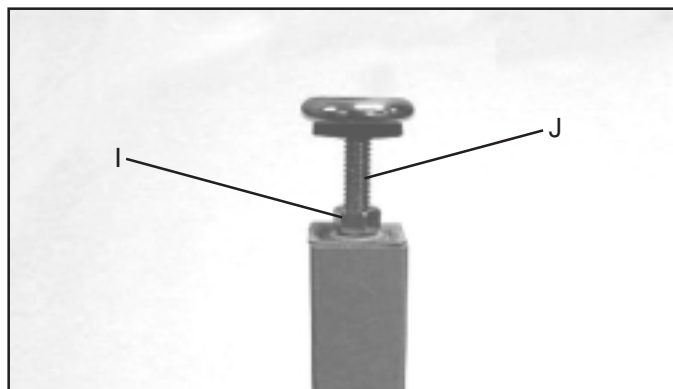

Fig. 18
8. Assemble the 3/8" jam nut (I) onto leveling screw (J). Thread leveling screw into foot adapter. Fig. 18 illustrates the foot leveling assembly on the table leg. Assemble the remaining foot assembly to the other leg in the same manner. **NOTE: Height adjustments will be made later.**